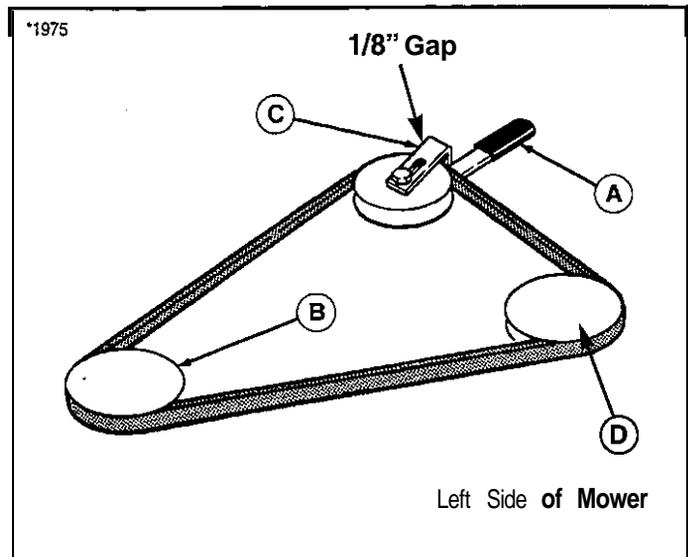

Figure 44. Mower Belt Routing - 44" & 50" Mower Deck
3. Push the idler arm (A, Figure 44) away from you to relieve belt tension. Drop the belt from the PTO (electric clutch) pulley.
4. Loosen the nut and lockwasher securing idler pulley belt guide (C, Figure 44).
7. See Figure 44. Position the idler pulley belt stop (C) in its original position so that there is a 1/8" gap between the pulley and belt stop.